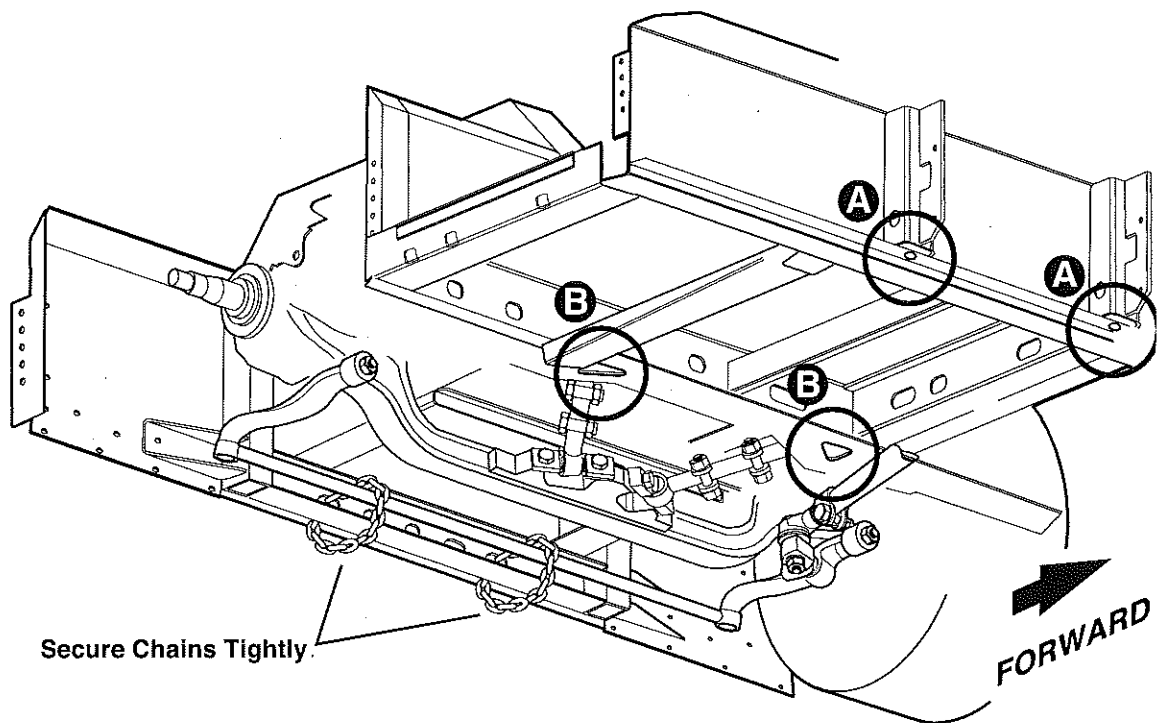

Figure 1-13, Tow Points and Chaining Front Axle
3. Working from behind the front axle, secure the chains around the tie rod to the structure behind, as shown in Figure 1-13. Minimum chain size is 3/8".
5. Use towing points **A** or towing points **B** as shown in Figure 1-13.